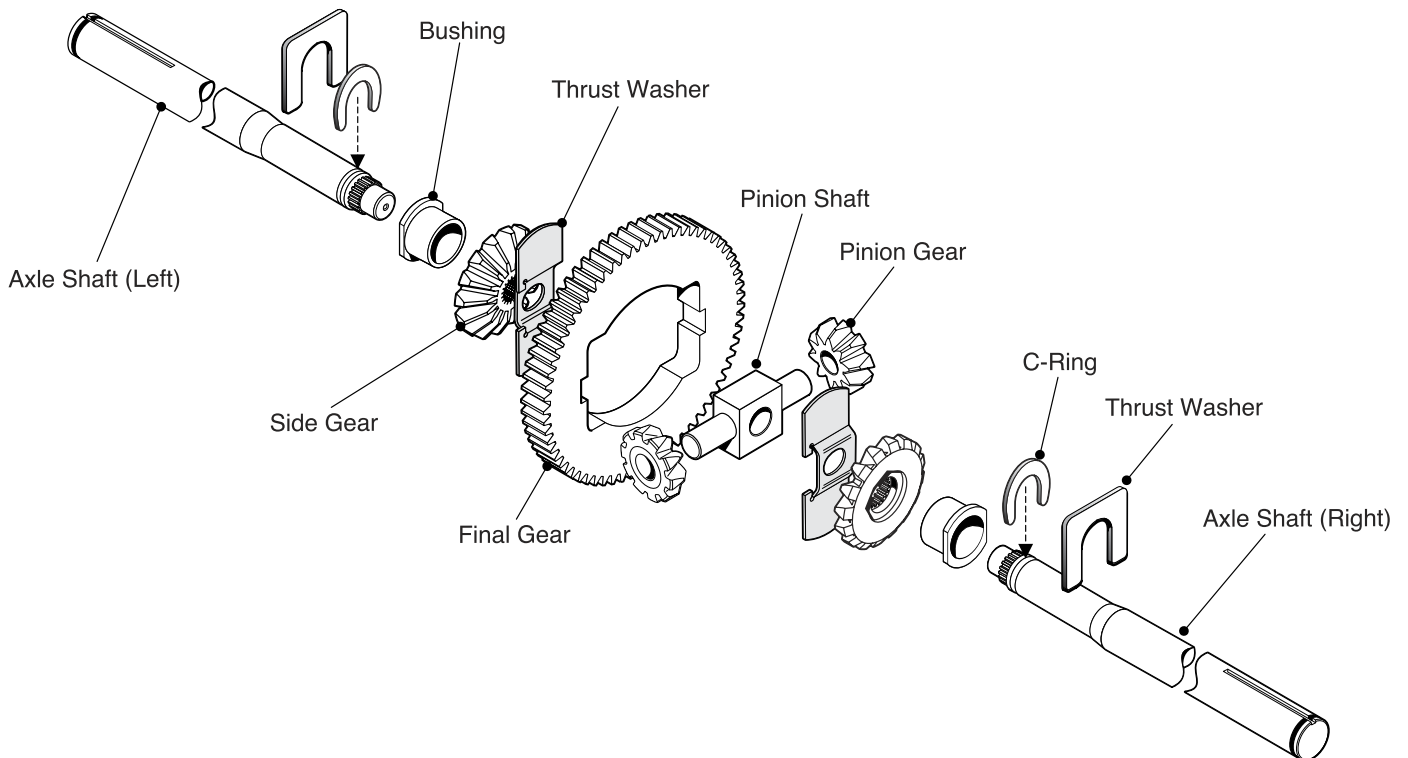

Fig. 16, Differential Gear and Axles
6. Remove (2) "loose" Bushings from the Upper Case. (Fig. 16)